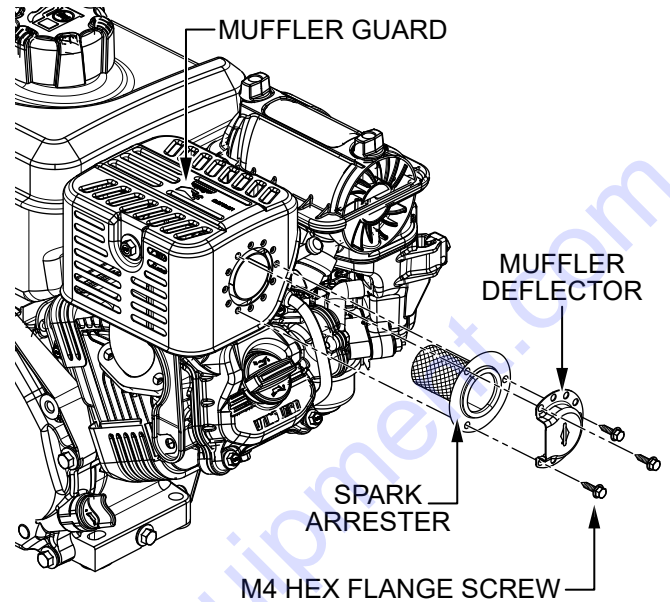

Figure 53. Spark Arrester Removal
2. Remove and retain the three M4 hex flange screws securing the muffler deflector and spark arrester to the muffler guard (Figure 53).